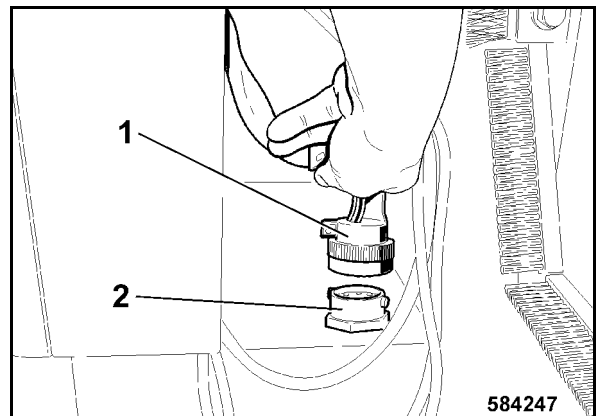

Fig. 227
- Insert the plug 1 (Fig. 227) into the socket (2).